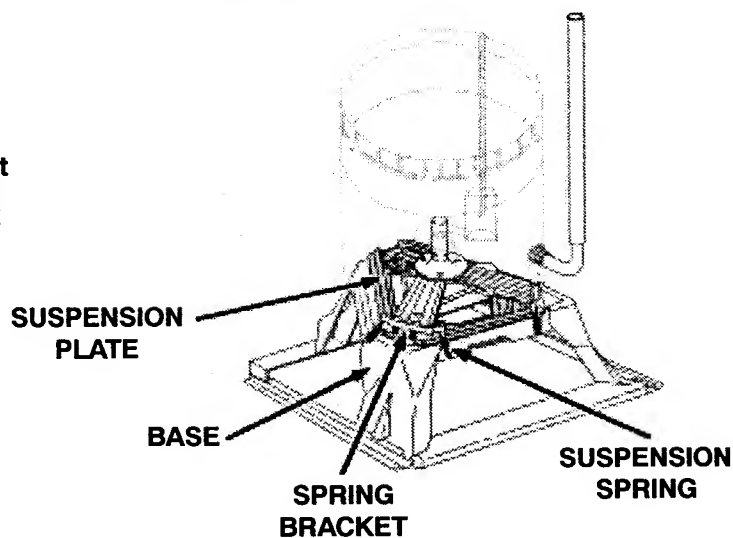

Fig. 59
4. The tub assembly is secured to the tub support at three locations. There are two screws, a suspension spring and a locating tab at each of these locations. (Fig. 59)